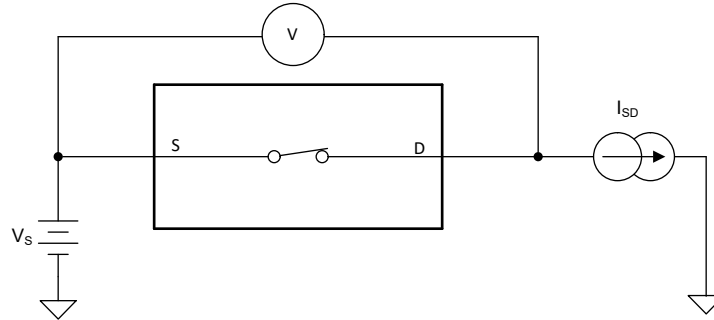

Figure 7-1. On-Resistance Measurement Setup
The On-Resistance of a device is the ohmic resistance between the source (Sx) and drain (Dx) pins of the device. The On-Resistance varies with input voltage and supply voltage. The symbol  $R_{ON}$  is used to denote On-Resistance. Figure 7-1 shows the measurement setup used to measure  $R_{ON}$ . Voltage (V) and current ( $I_{SD}$ ) are measured using this setup, and  $R_{ON}$  is computed with  $R_{ON} = V / I_{SD}$ .